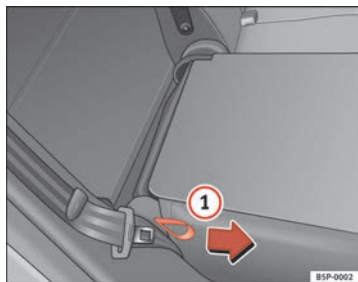

Fig. 100 Folding or opening the rear seat backrests
- Pull the loop on the side of the seat ⇒ fig. 100 ①